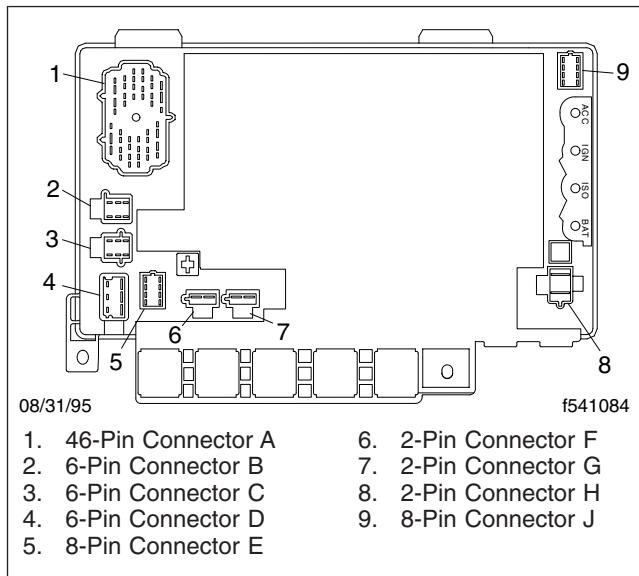

Fig. 2, Pin Connectors (top view)
- Attach the 7-mm capscrew to the 46-pin connector and install it to the top of the PDM. See Fig. 2.